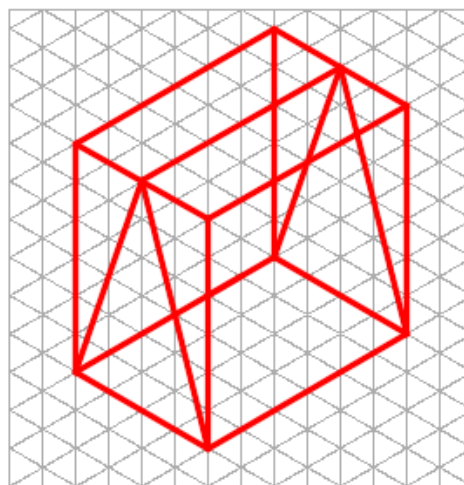

Figure Step 14A
Step 14 The figures show the necessary steps. Try to complete the isometric without looking at the figure. (Figure Step 14A, 14B, 14C, and 14D)